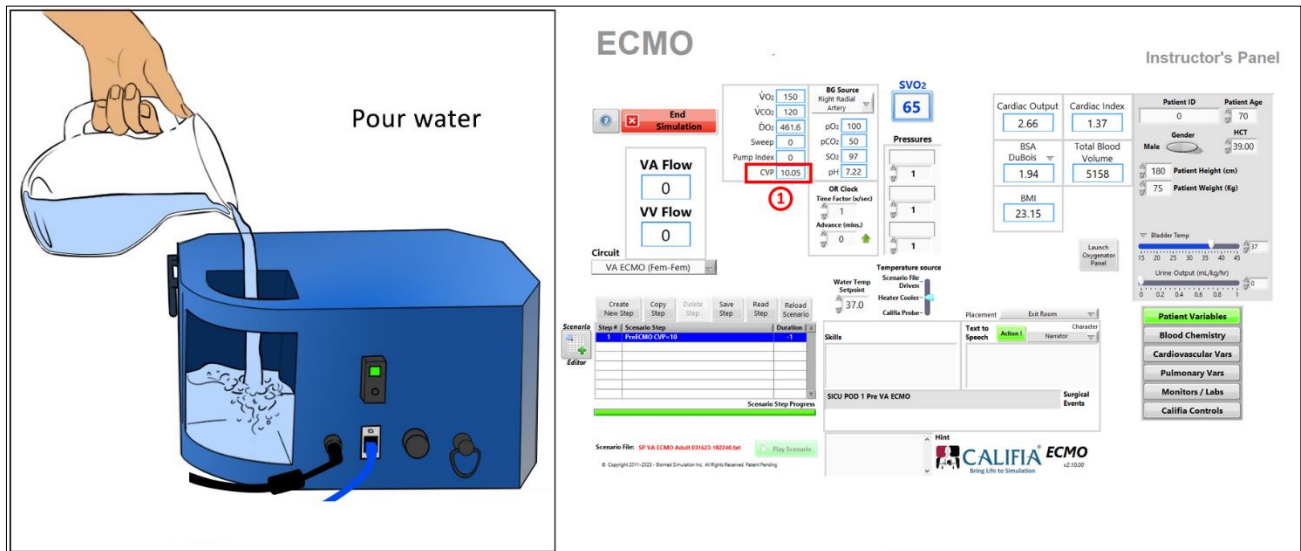

Figure 5.5 Fill CPM with water to match target CVP
Fill Califia's Reservoir until CVP is 10 mmHg, ① in Figure 5.5.